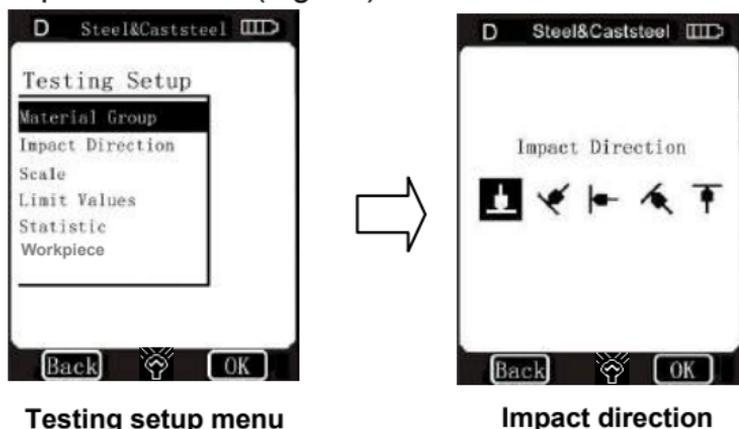

Fig 4.7
4.2.1.2.1 In measure mode, use touch pen to click the “Impact Direction” logo to select the desired impact direction. (Fig 4.7)